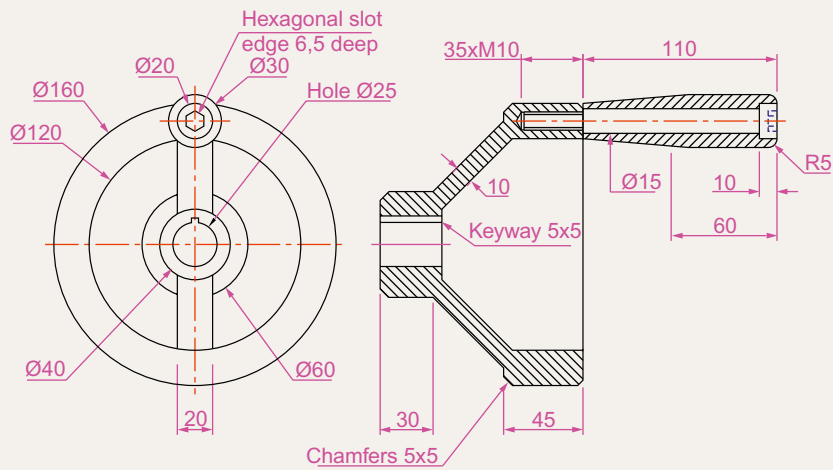
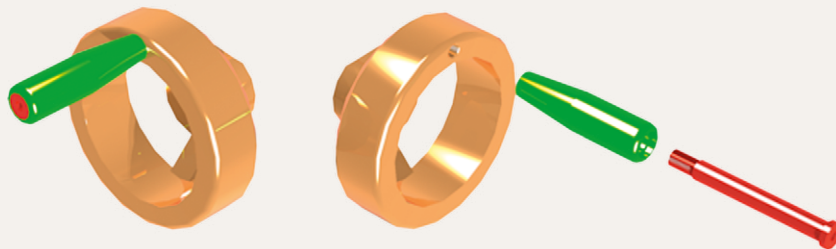

Fig. 19.28 Exercise 6 – details drawing
Fig. 19.29 Exercise 6 – renderings
6. Working to the details shown in Fig. 19.28, construct a 3D model of the parts of the wheel with its handle. Two renderings of 3D models of the rotating handle are shown in Fig. 19.29, one with its parts assembled, the other with the parts in an exploded position relative to each other.